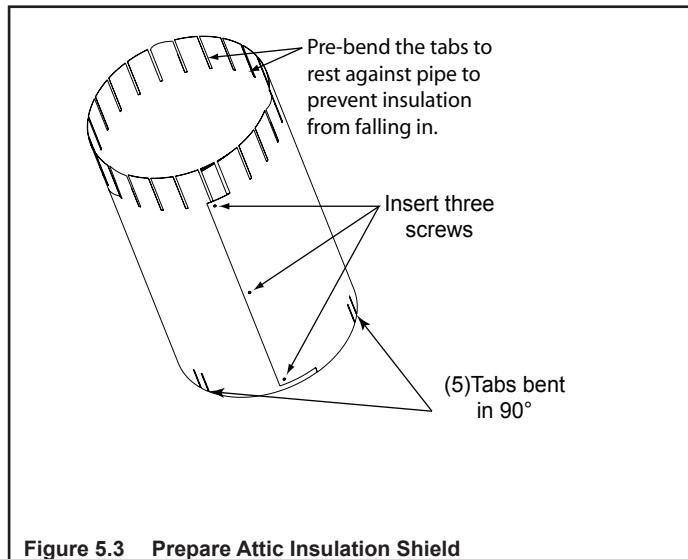

Figure 5.3 Prepare Attic Insulation Shield
- Refer to Figures 5.3, 5.4, and 5.5..